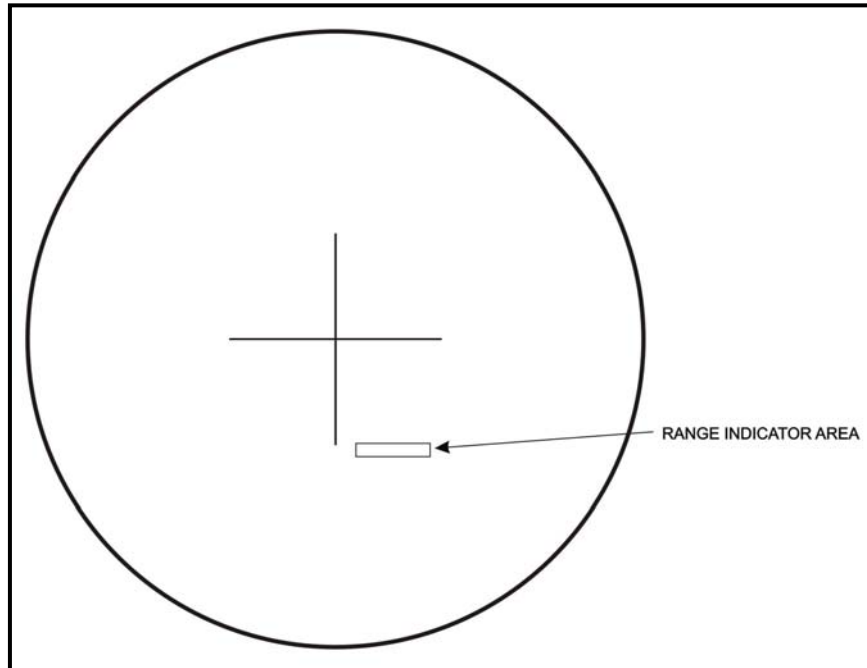

Figure 2-29. Range indicator area.
(2) **Range Indicator Area.** The range to the target (in meters) is displayed in this area whenever the gunner uses either active or passive ranging (Figure 2-29, page 2-22).